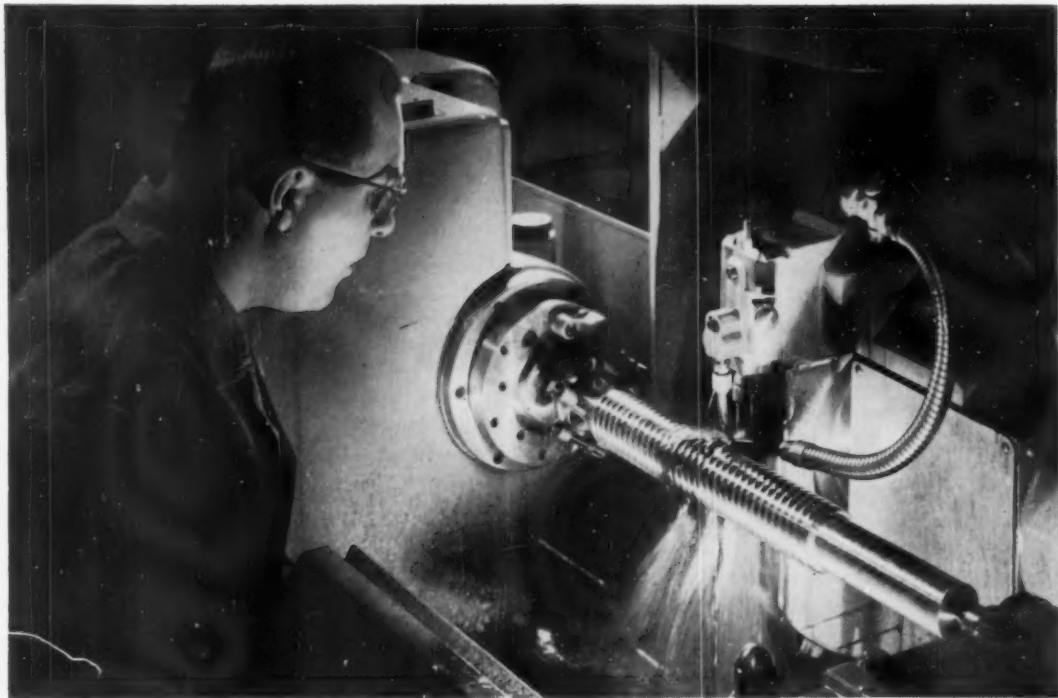

Fig. 2. An oil is needed for maintaining accurate wheel form in thread grinding.
**Grinding Oils:** These reduce the heat generated and make it possible to use the hard wheels that are required when maintenance of an accurate form is essential, as in thread grinding, *Fig. 2*. They usually contain fatty materials of various kinds to provide the desired wetting and lubricating action, and they may also contain sulfur or chlorine or both. Such additives may reduce wheel wear. They may also reduce the heat generated in the surface of the work, either directly or by preventing the wheel face from becoming loaded. In the latter instance, the surface finish is likely to be improved.